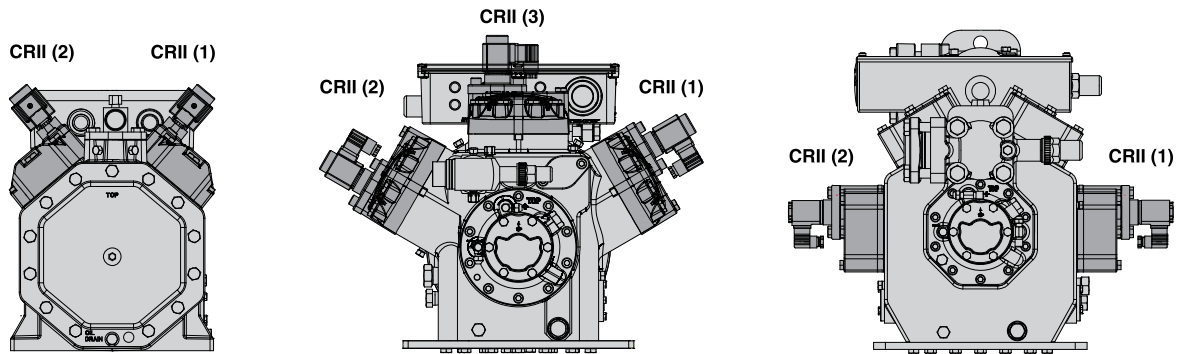

Fig. 5: ECOLINE 4-, 6- and 8-cylinder compressors fully equipped with the CRII system.
Mounting position of the valve top parts for capacity control, see figure 5, page 12.
- Tandem compressors: With a possible load sequence switching in mind, both compressor parts should be equipped with the same number of CRII cylinder heads, see figure 5, page 12.